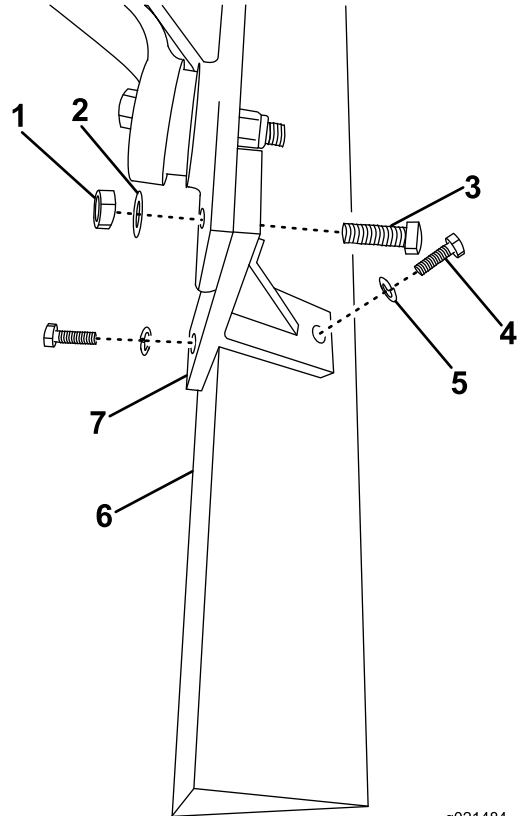

Figure 21
- Install the board clamp to the frame of the machine using square bolts and split-lock washers (Figure 21).
- Install the aluminum board to the board clamp using hex bolts and split-lock washers (Figure 21).
2. Remove the square bolts securing the machine to the board clamps (Figure 21).